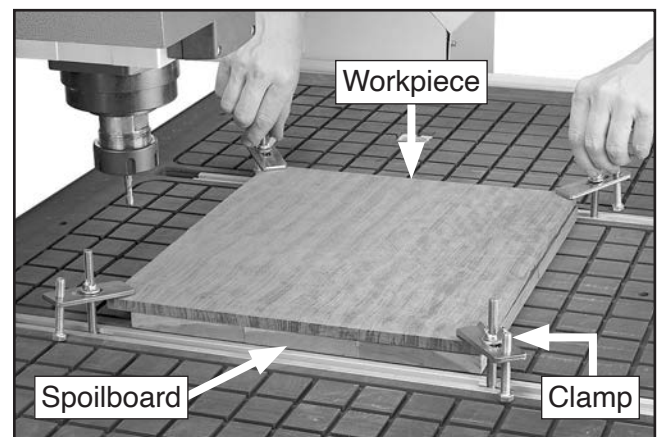

Figure 45. Example of spoilboard and workpiece clamped to CNC router table.
1. Clamp spoilboard to table using a minimum of (4) hold-down clamps (see **Figure 45**).